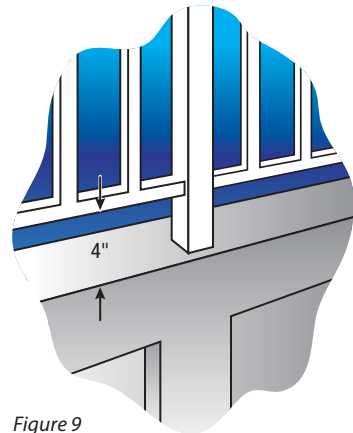

Figure 9
3. Where the top of the **pool structure is above grade or surface**, such as an above ground pool, the barrier may be at ground level, such as the pool structure, or mounted on top of the pool structure. Where the barrier is mounted on top of the pool structure, the maximum vertical clearance between the top of the pool structure and the bottom of the barrier should be 4 inches (figure 9).